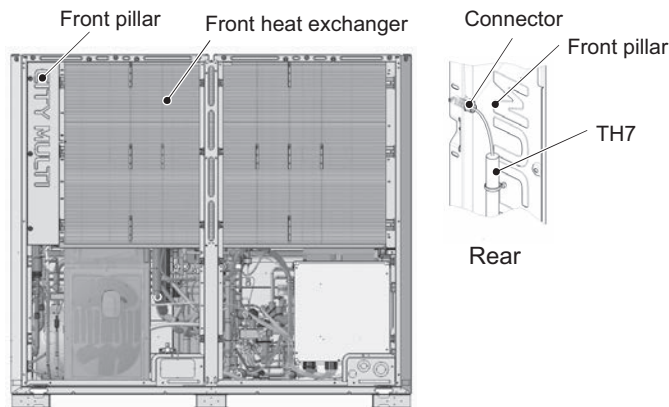

Figure 11
- (12) Remove the front pillar by unscrewing the 7 screws. (See Figure 11.)
- (13) Disconnect the TH7 sensor holder from the front pillar. (See Figure 11 Rear.)